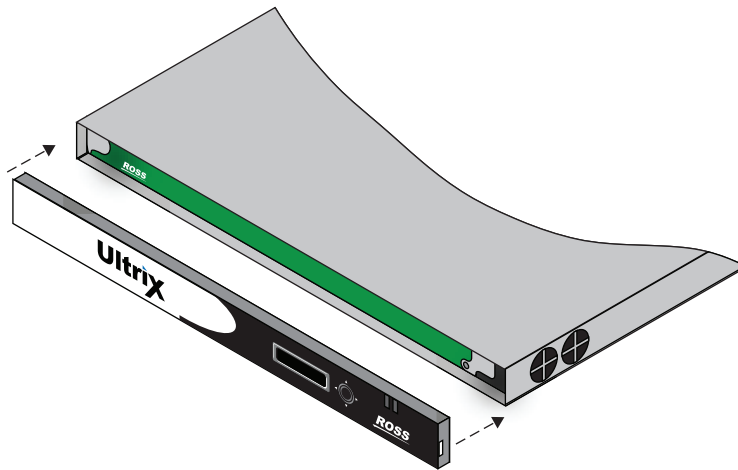

Figure 26.18 ULTRIX-FR1-NS — Aligning the Door to the Chassis
1. Align the door to the front of the router, ensuring that the door is oriented upright, the corner with the Ultrix logo is in your left hand, and the corner with the Ross logo is in your right hand. (**Figure 26.18**)